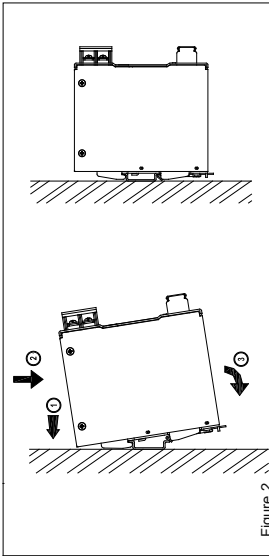

Figure 2
- 3. Mounting (Fig. 2)**
Each device is delivered ready to install. Snap on the DIN rail as shown in Fig. 2: